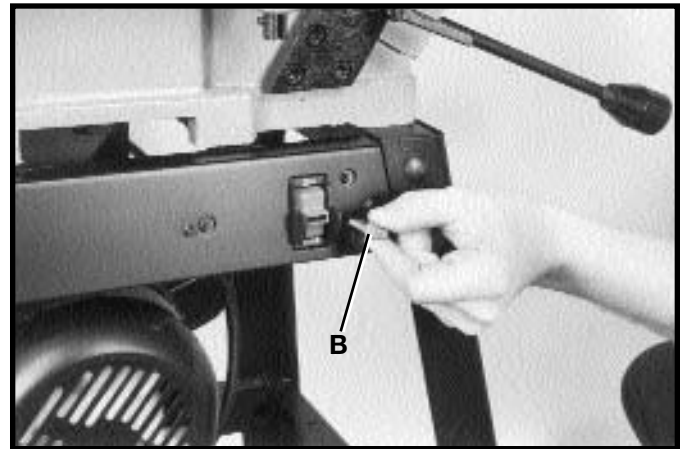

Fig. 34
IMPORTANT: When the tool is not in use, the switch should be locked in the “OFF” position to prevent unauthorized use. Grasp the switch toggle (B) and pull it out as shown in Fig. 34. With the switch toggle (B) removed, the switch will not operate. However, should the switch toggle be removed while the machine is running, it can be turned “OFF” once, but cannot be restarted without inserting the switch toggle (B).